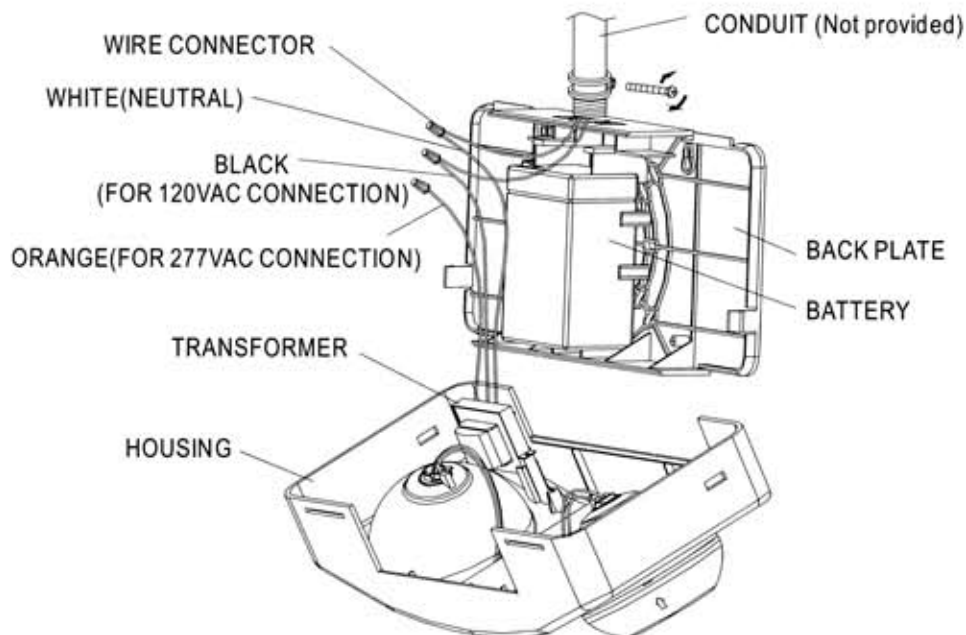

Fig.3
2. Remove knock out hole from back plate. (see Fig.3)